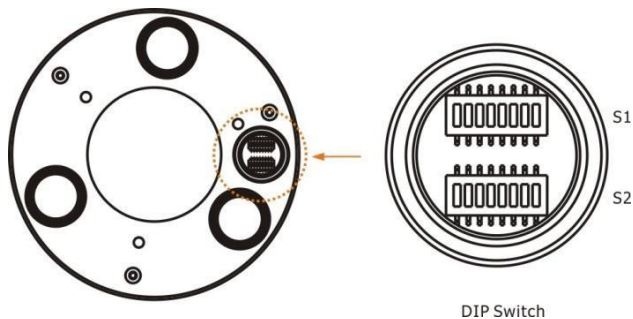

Fig.1: DIP Switch
- DIP Switch: The switches to configure these settings are located on the main board inside the camera. See Fig.1: DIP Switch.